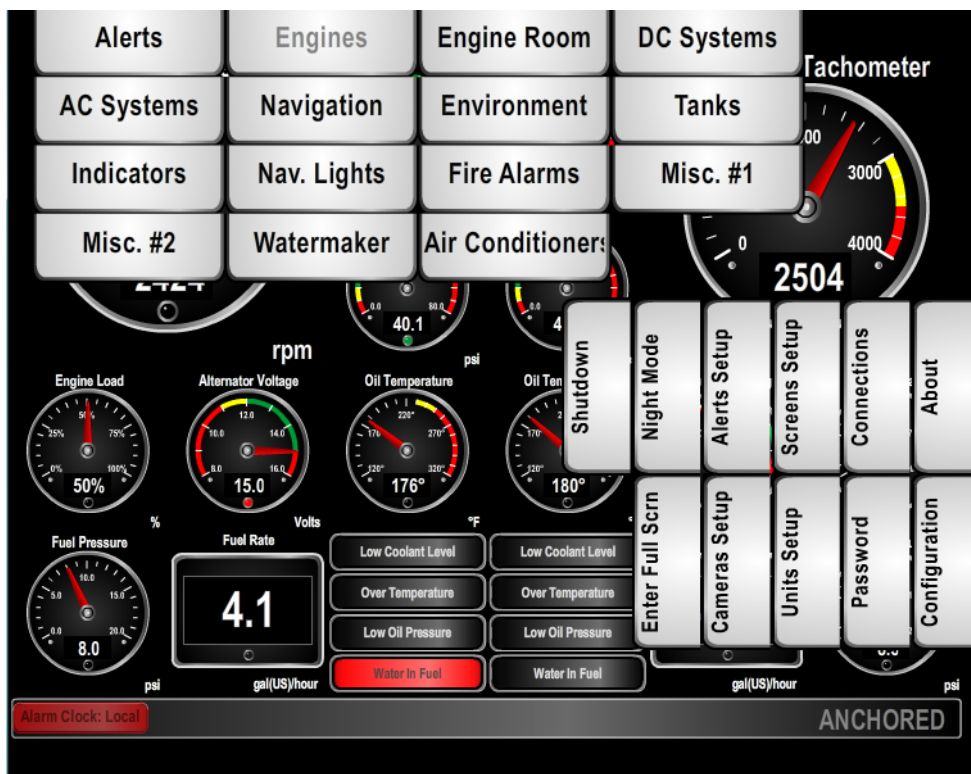

Figure 10 – N2KView® Window with Tabs Displayed
- Click anywhere inside the N2KView® screen to display the screen tabs as shown in Figure 10 above.